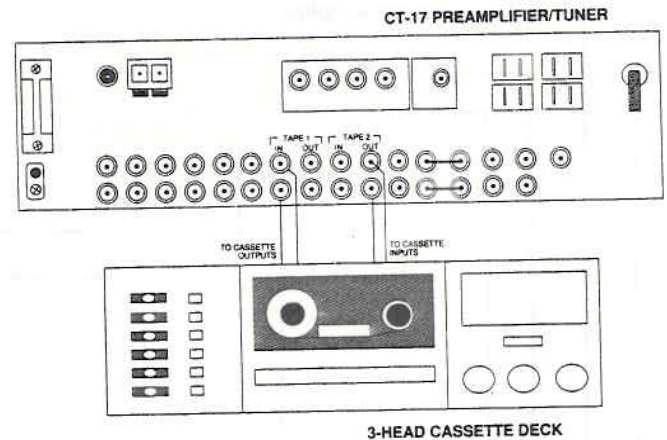
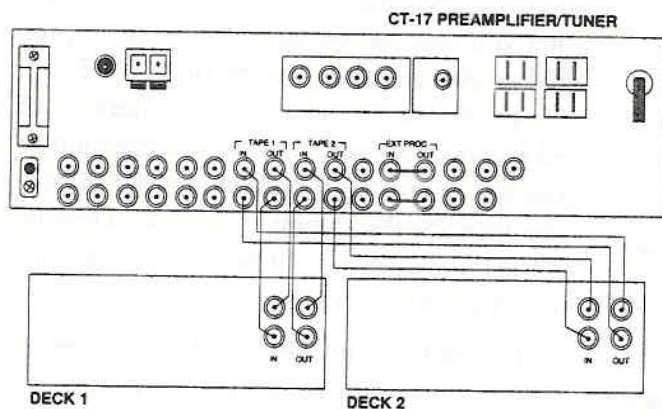

Figure 6 Connecting a 3-Head Cassette Deck
Figure 7 Connecting Two Cassette Decks
are covered in a special hook-up. (See Fig. 6.) An alternate version of this hook-up is also used for two separate external processors (Fig. 7).
See Figure 6.
See Figure 7.
1. With ENGAGE OFF, TAPE MONITOR ON/OFF pushed IN and TAPE SELECT to 1, and the deck connected as shown in Figure 6, select the playback source on the Record/Remote Select row of Input Select buttons. Start the playback source and the record deck. The source will record onto the recording deck and the output from the recording deck can be monitored at the PREOUT. Pushing the Tape/Source Select button on the 3-head cassette deck will allow you to monitor either the source or the tape as it is being recorded. Pushing the TAPE MONITOR ON/OFF button OUT on the CT-17 will allow you to listen to another source selected with the Primary Input Select buttons at the PRE OUT while the recording is taking place.
1. Connect the recording deck as shown in Fig. 6. Connect the playback deck output to an unused input on the CT-17 such as AUX. Connect the TAPE 1 output from the CT-17 to the source deck's input jacks.